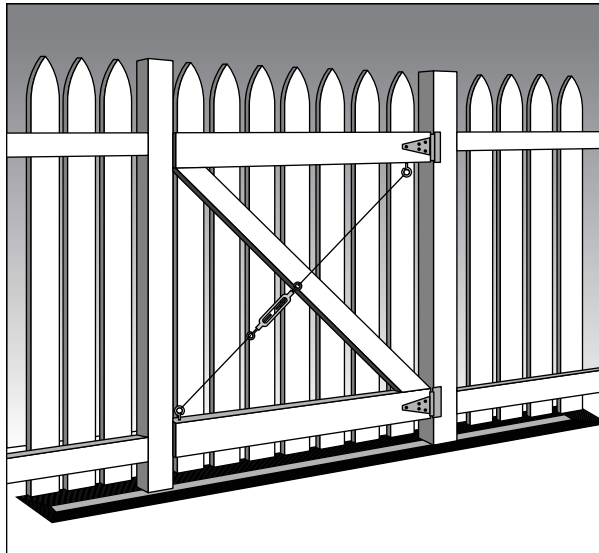

Figure 18-3:
- 3. Attach cables to each corner bracket and then to the two ends of a turnbuckle (see Figure 18-3).**